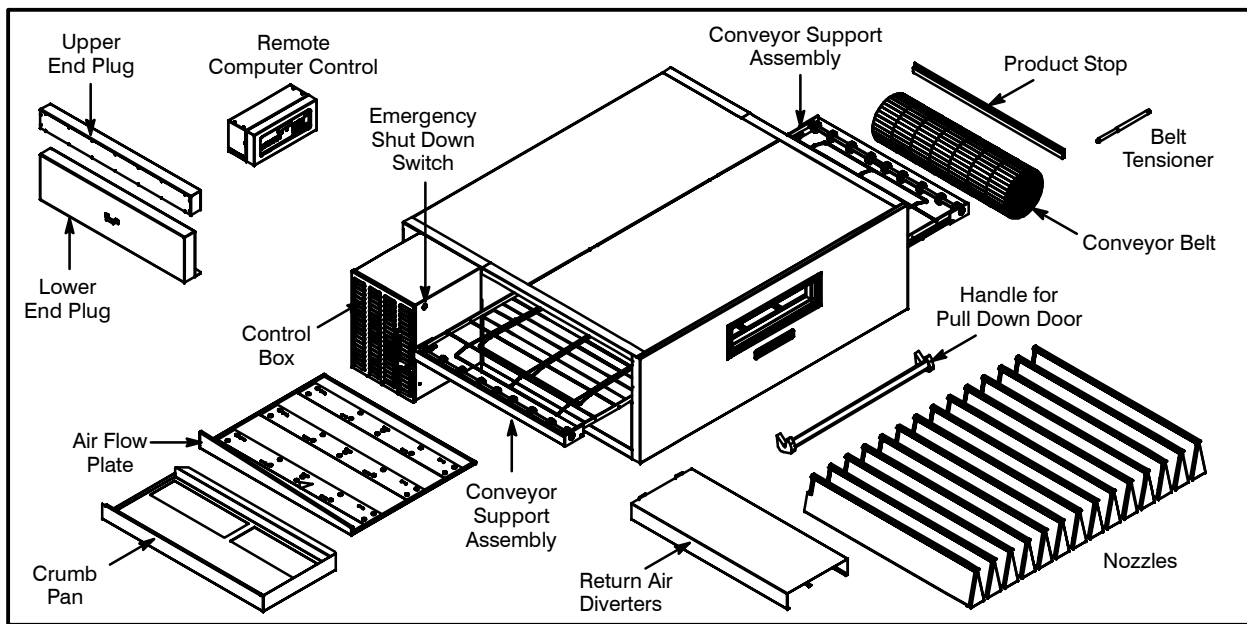

Figure 2
The oven can now be moved to the installation site. Check the following list with Figure 2 on page 3 to be sure all items were received.
* not shown in Figure 2.*